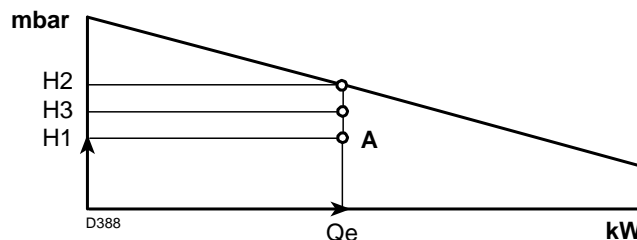

Fig. 3
- 4 Trace a vertical line from **point A** (Fig. 3), and find the maximum pressure "H2" of the firing rate.
- If "H3" is greater than "H1" (Fig. 3), the burner can supply the required output.